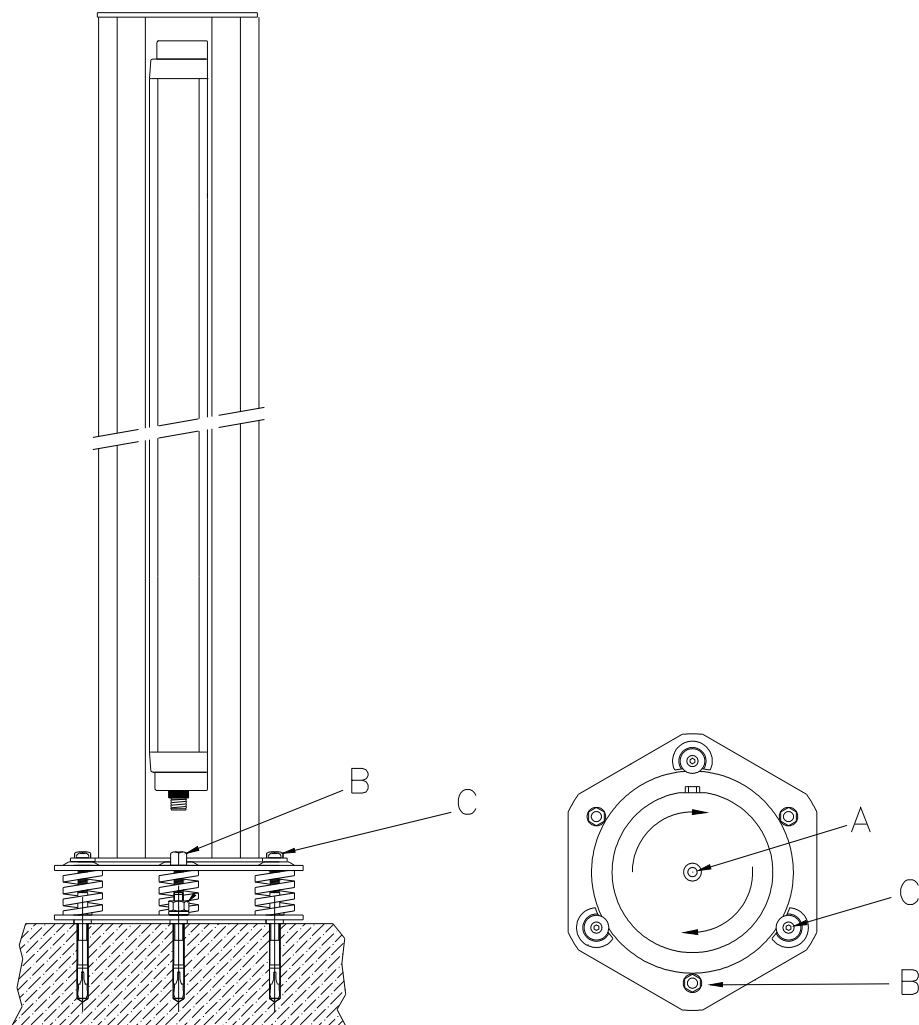

Figure 4
*To operate the regulation, act on the three hexagonal nuts **B** (fig.4) until the perfect levelness is reached. (Maximum adjustment: 10mm).*
ALIGNMENT OF EMITTER AND RECEIVER (Fig. 4)